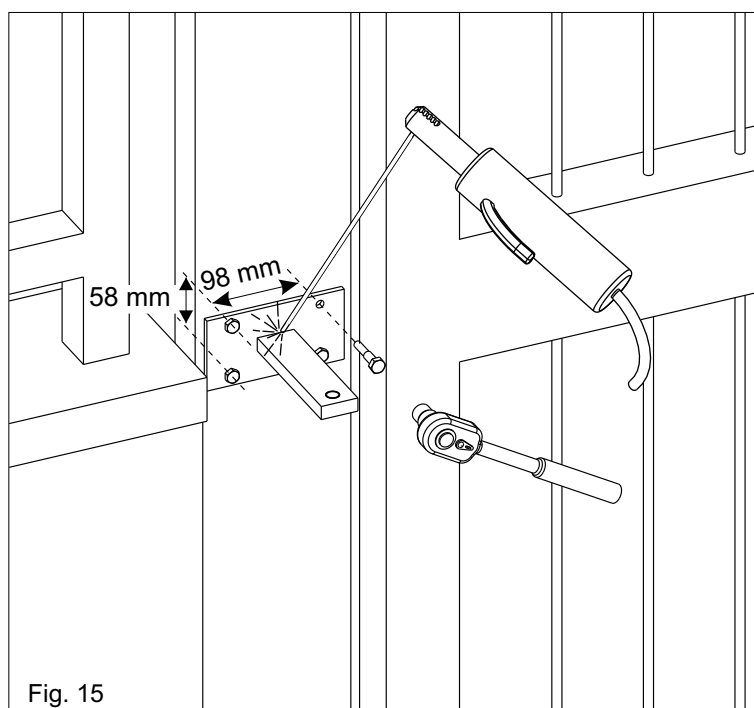
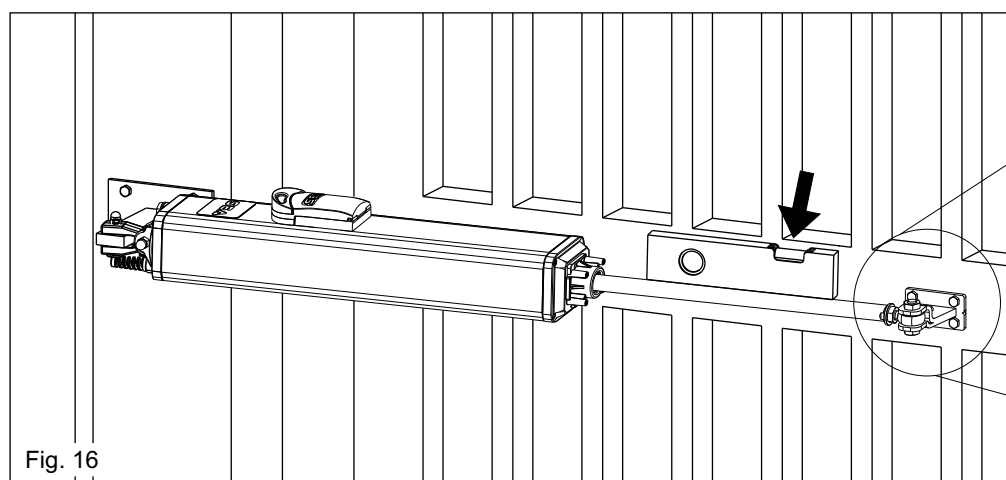

Fig. 15
Fig. 16
According to the type of opening that you have chosen (inside or outside) and to the chosen leaf rotation (see pag. 18-19), the rear bracket must first be cut respecting the quote "a" on pag. 18-19 and then welded as in fig. 15.
The support must be positioned so that the operator is perfectly levelled (Fig. 15, Fig. 16)
4. Set the operator perfectly levelled and mark the position of the front bracket (Fig. 16).